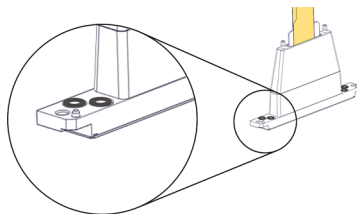

Figure 4-122 O-ring seals on the print head
17. Place four (4) O-ring seals in the replacement head (see Figure 4-122 on the previous page).